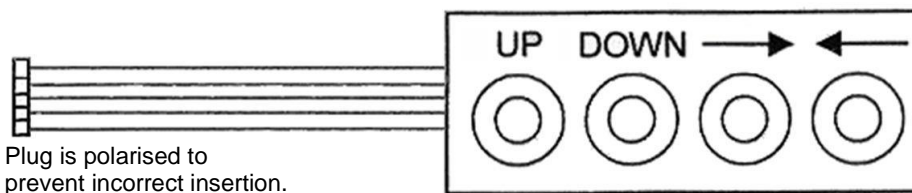

Figure 1. HP Programmer
7. The entry or reconfiguration of program parameter data is achieved with a 4-button keypad programmer (see Figure 1 below) that is plugged onto the 5-pin inline Data Entry Plug-In plug rail located on each Dual Channel Module (as shown in Figure 3 on page 3). The programmer plug is keyed so that it can only be plugged in the correct way.